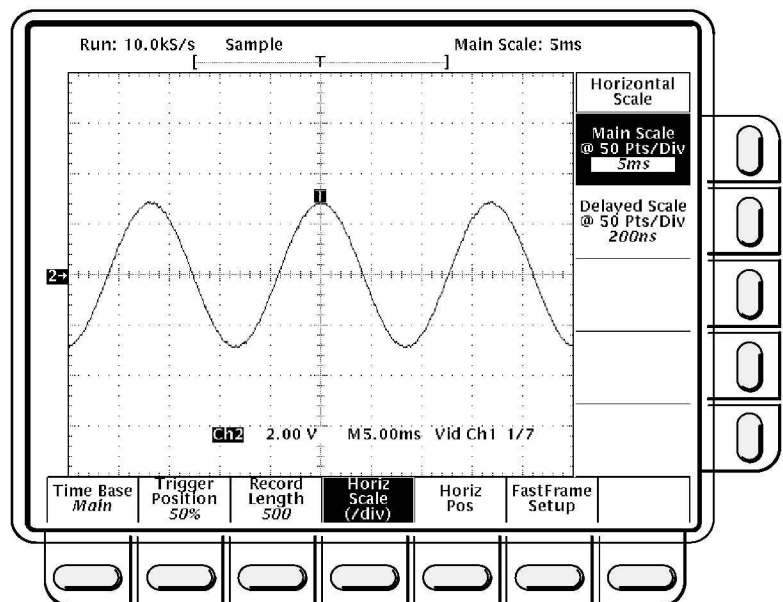

Figure 4-32: 60 Hz Rejection Test Setup Signal
- Adjust the SG 502 for three vertical div of 60 Hz signal (see Figure 4-32). The signal will not be triggered. That is, it will run free.